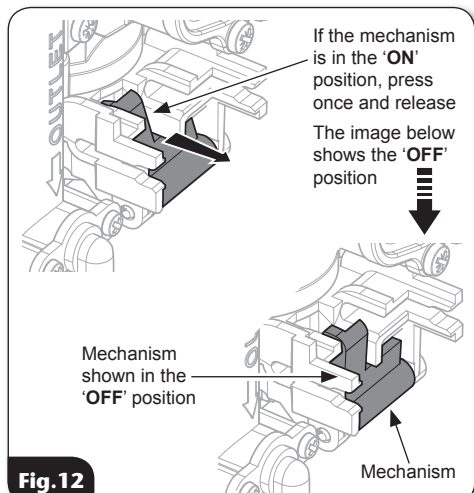

Fig. 12
- Before turning on the mains water supply ensure that the **start/stop** mechanism is in the **off** position (fig.12).
IMPORTANT: The Start/Stop button uses a valve latching mechanism (see **fig.12**). Some resistance will be felt when operating it. The button should be **pressed firmly** to operate the mechanism.